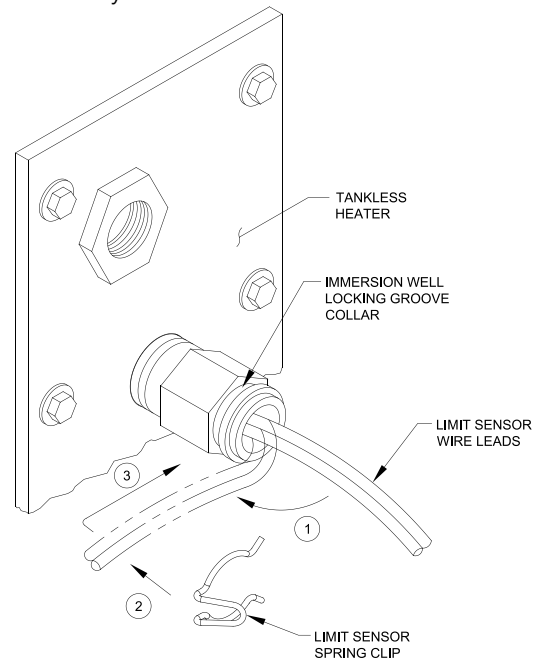

Figure 5: Securing Limit Sensor
3. Securing Limit Sensor, see Figure 5.
**Step b.** Position Limit Sensor clip as shown in Figure 5. Engage the hook end of the clip over the lead wires upstream of the Immersion Well.